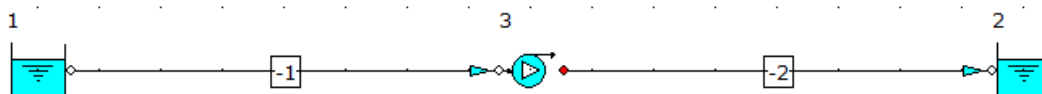

Figure 40: Converged Hydraulic Model
39. Check the converged hydraulic model in the flowsheet. The blue arrowhead shows that the flow direction is from the source node 1 to the source node 2. Also, check if the pipes and compressor are highlighted in **RED**, indicating that we have a warning message associated with the pipe elements and compressor (Figure 40).